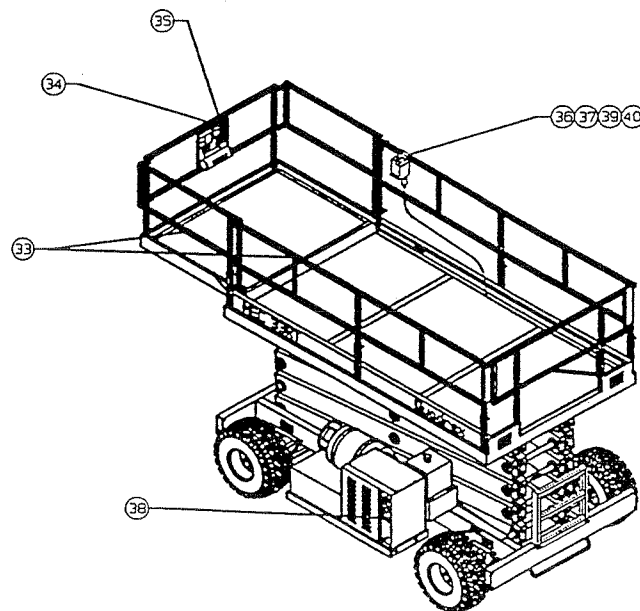

Fig. 4-9 Quadrex RT Full Machine
33. Platform Railings (Fig. 4-9) - check all railings for secure and proper installation and obvious damage. Check that top rail is not bent to a height of less than 39 inches.